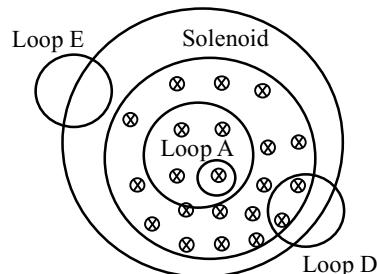

Fig. 19.7
2. A cross-section of an ideal solenoid is shown in Fig.19.7. The magnitude of a uniform magnetic field is increasing inside the solenoid and $\mathbf{B} = 0$ outside the solenoid. Which conducting loops is there an induced current? What is the sense of the current in each case?